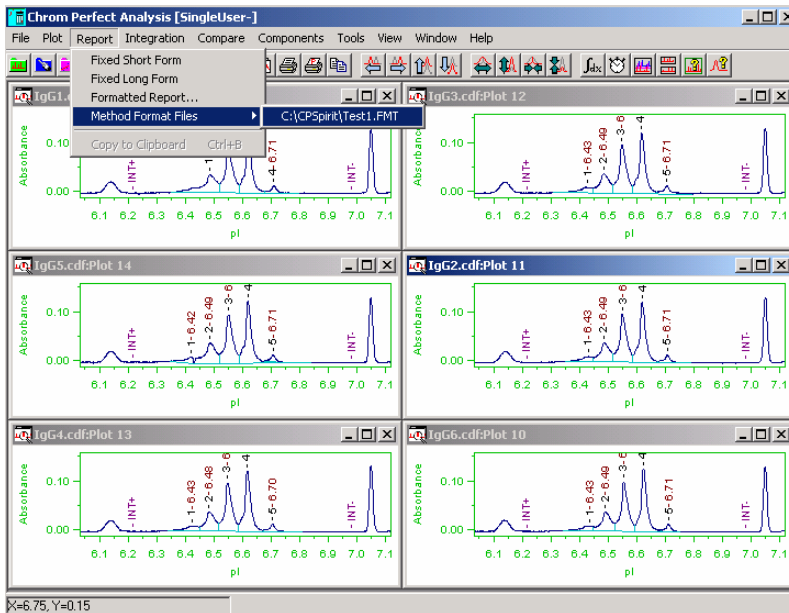
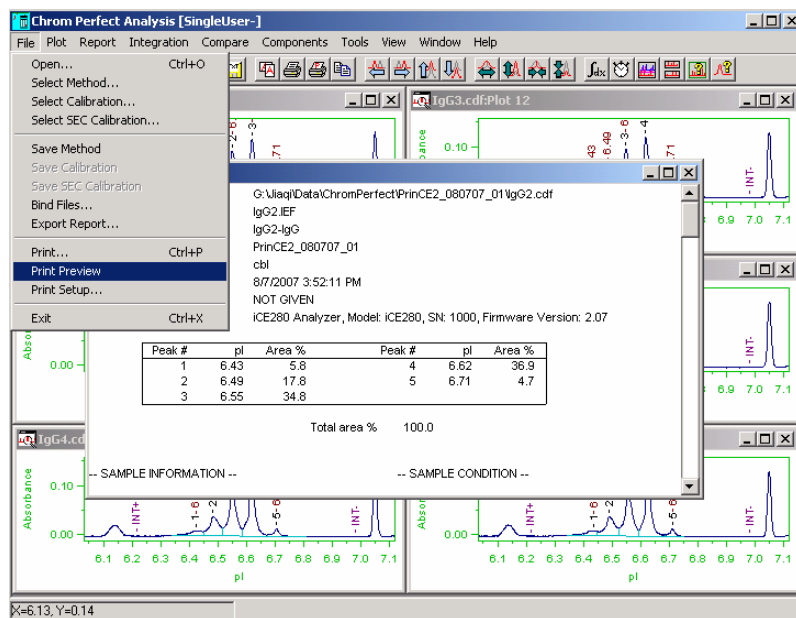

Figure A-42: Displaying Customer Report for Selected Data Files
Figure A-43: File > Print Preview
- As shown in Figure A-42, click **Report > Method Format Files** to display customer report of this data file (IgG2) as shown in Figure A-42 and Figure A-43.